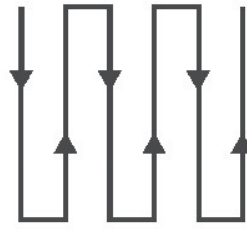

Fig. 15
5. Mow in slight overlapping rows. The most effective pattern for mowing lawns is straight lines along one of the sides. This will keep the rows even and ensures that all the lawn is cut without missing any spots (Fig. 15).